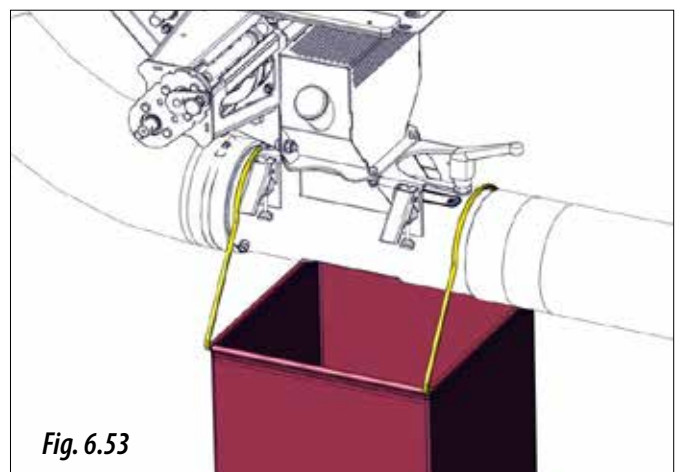

Fig. 6.53
- 4- Place the bag supplied or a container under the Venturi injector outlet (Fig. 6.53).